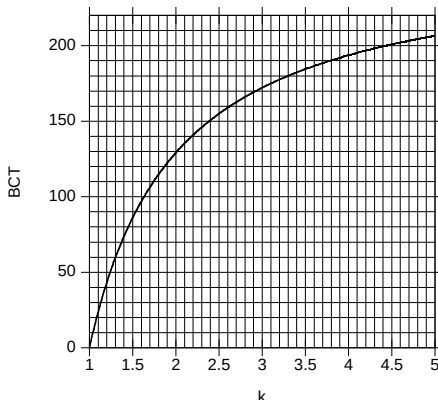

Figure 21: Relationship between the k Ratio and the Optimal BCT to Recover Linearity
Figure 21 shows the optimal BCT value for a particular k ratio.
The k ratio can be deduced from the error curve obtained with the default BCT setting (BCT = 0). Rotate the magnet more than one revolution and record the device's output. Then plot the error curve (the output minus the real mechanical position vs. the real mechanical position) and extract the two parameters: the maximum error (E) and the position of this maximum with respect to a zero crossing α_m (see Figure 21). k can be calculated with Equation (7):